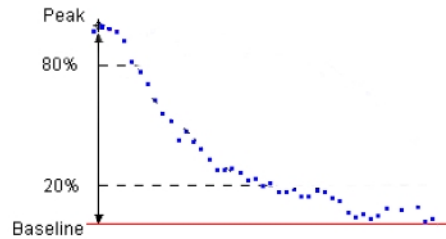

Figure 3-2: Decay slope from 80% to 20%.
- Decay Slope:** The slope, from within the region bounded by the peak and the end of the search region, between the points determined by the associated from and to percentiles. Points to the right of the peak are scanned until points at the nominated percentages of the peak amplitude (relative to the baseline) are found. Regression is applied to these and all intervening points to give the decay slope (see Figure 3-2).